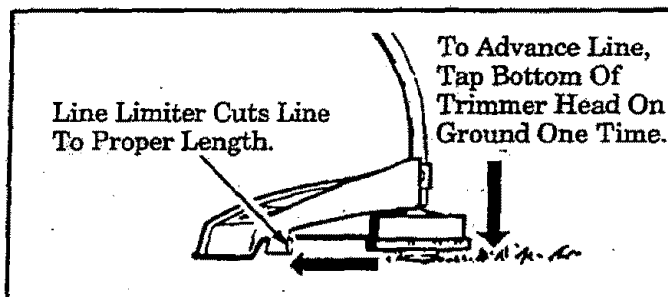

Figure 7
- Always keep the shield in place when the tool is being operated. Figure 7.
3. Tap the bottom of the trimmer head lightly on the ground one time. See Figure 7. Approximately 2 inches of line will be advanced with each tap.